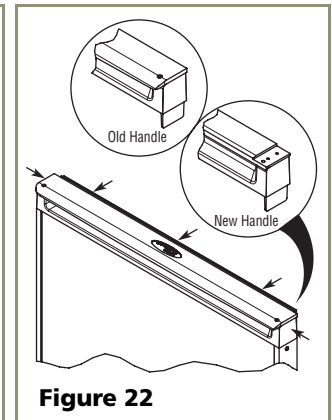

Figure 22
5. Remove the handle and discard. (This handle will be replaced with the Overlay Handle included in the Full Overlay Door Panel Kit. See **Figure 22**.)